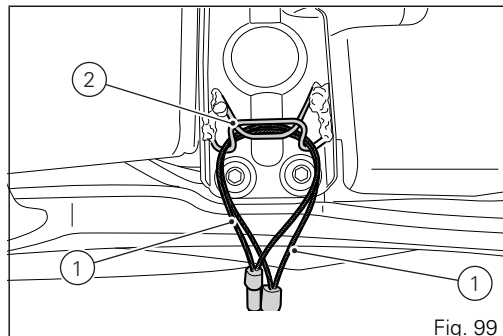

Fig. 99
The correct position of the cable ends (1) in pins (2) is shown in (Fig. 99).